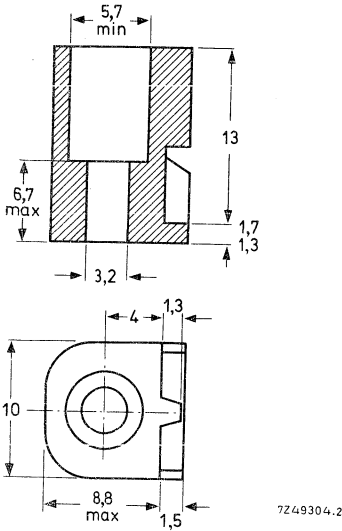
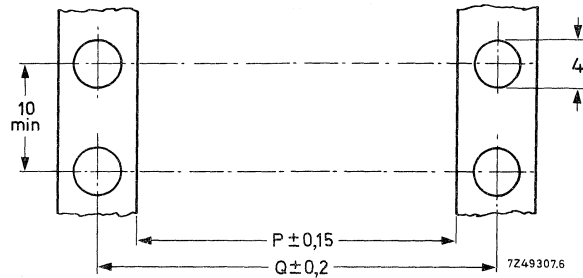

Fig. 3 Thermoplastic mounting bracket
Fig. 7 Piercing diagram for rail mounting; $P = L_{\max} + 7$ mm, $Q = L_{\text{nom}} + 13,4$ mm. For L_{nom} and L_{\max} see Table 1.
- thermoplastic bracket, catalogue number 4332 026 06560 (Figs 3 and 4);
In Figs 7 and 8, piercing diagrams are given for connectors with mounting brackets as shown in Figs 3 and 5.